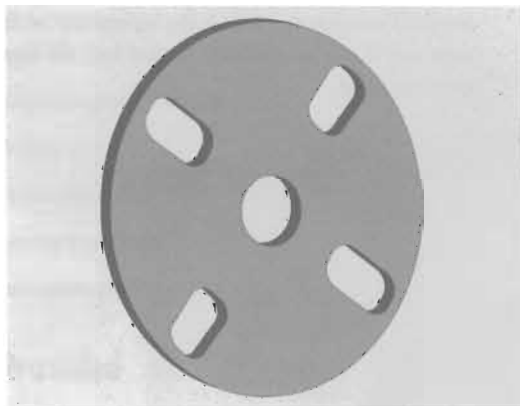

Figure 4
1. Remove the four brake pads (Figure 4) from the upright-tube support and brake-pad plates.